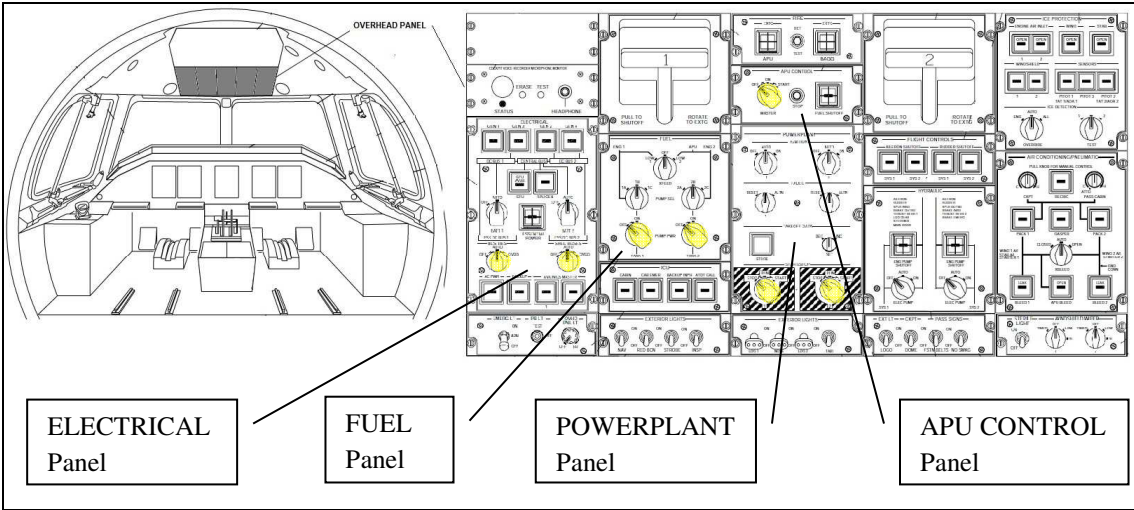

Figure 1 – EMB-135/145 Overhead Panel (typical) – Relevant switches are highlighted
- 1- Visually inspect the panel face markings adjacent to the rotary switches identified in Table 2 below (see Figures 1 through 5 below for the locations of the switches for each aircraft family – Table 2 switches are highlighted in yellow), for obscured / erased paint markings. Ensure that the panel markings are clearly visible and legible. Obscured / erased panel markings can prevent the crew to accurately set the switch to the position intended;